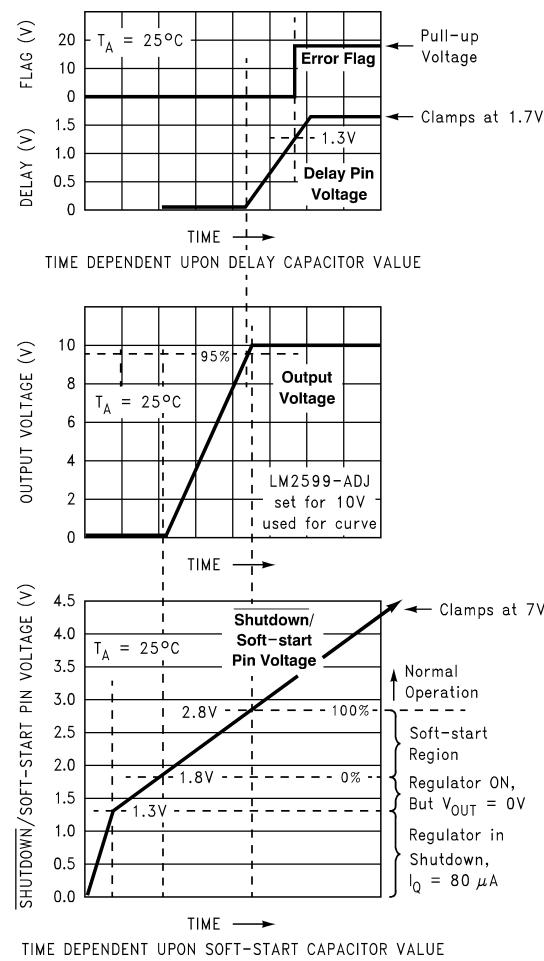
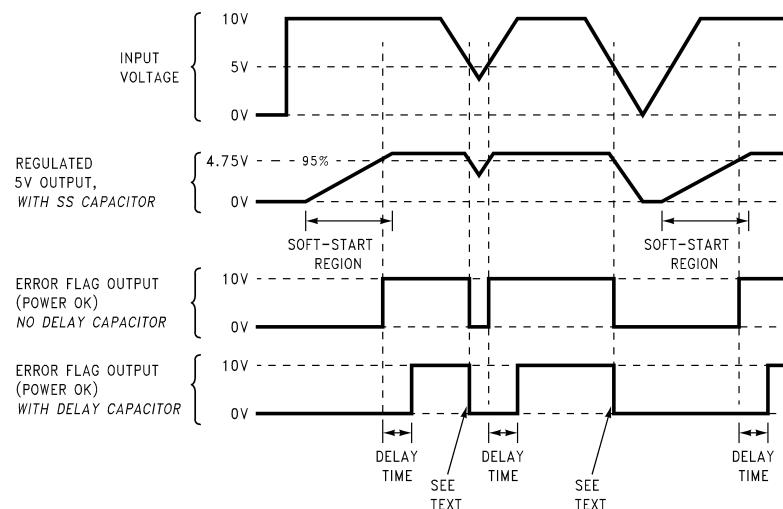

Figure 28. Soft-Start, Delay, Error, Output
Figure 29. Timing Diagram for 5-V Output
The capacitor on this pin provides the regulator with a soft-start feature (slow start-up). When the DC input voltage is first applied to the regulator, or when the Shutdown/Soft-start pin is allowed to go high, a constant current (approximately 5 μ A begins charging this capacitor). As the capacitor voltage rises, the regulator goes through four operating regions (see the bottom curve in Figure 28):
3. Soft-start Region: When the \overline{SD}/SS pin voltage is between 1.8 V and 2.8 V (at 25°C), the regulator is in a soft-start condition. The switch (Pin 2) duty cycle initially starts out very low, with narrow pulses and gradually get wider as the capacitor \overline{SD}/SS pin ramps up towards 2.8 V. As the duty cycle increases, the output voltage also increases at a controlled ramp up (see the center curve in Figure 28) The input supply current requirement also starts out at a low level for the narrow pulses and ramp up in a controlled manner. This is a very useful feature in some switcher topologies that require large start-up currents (such as the inverting configuration) which can load down the input power supply.
The lower curve shown in Figure 28 shows the soft-start region from 0% to 100%. This is not the duty cycle percentage, but the output voltage percentage. Also, the soft-start voltage range has a negative temperature coefficient associated with it. See the soft-start section in Electrical Characteristics – All Output Voltage Versions.
This capacitor provides delay for the error flag output (see Figure 28 and Figure 29). A capacitor on this pin provides a time delay between the time the regulated output voltage (when it is increasing in value) reaches 95% of the nominal output voltage, and the time the error flag output goes high. A 3- μ A constant current from the delay pin charges the delay capacitor resulting in a voltage ramp. When this voltage reaches a threshold of approximately 1.3 V, the open-collector error flag output (or power OK) goes high. This signal can be used to indicate that the regulated output has reached the correct voltage and has stabilized.